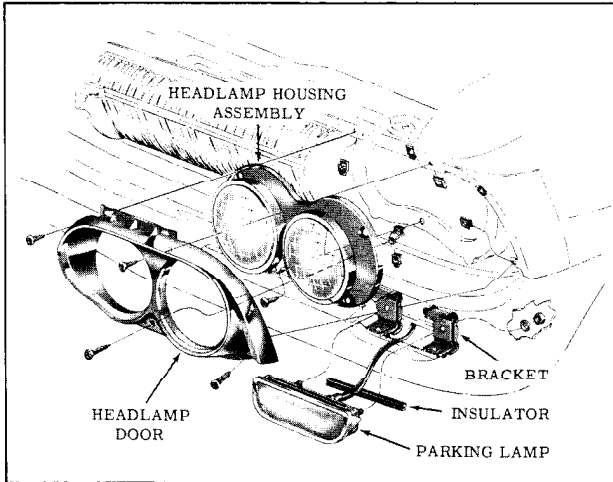

Fig. 11-20 Headlamp Door and Housing
HEADLAMP DOOR AND HOUSING (Fig. 11-20)
1. Remove headlamp door. (Fig. 11-20)
The parking lamp assemblies may be removed by disconnecting the wiring and removing the four stud nuts and two clamps, and removing the clamp from the rear of the stone shield. (Fig. 11-20)